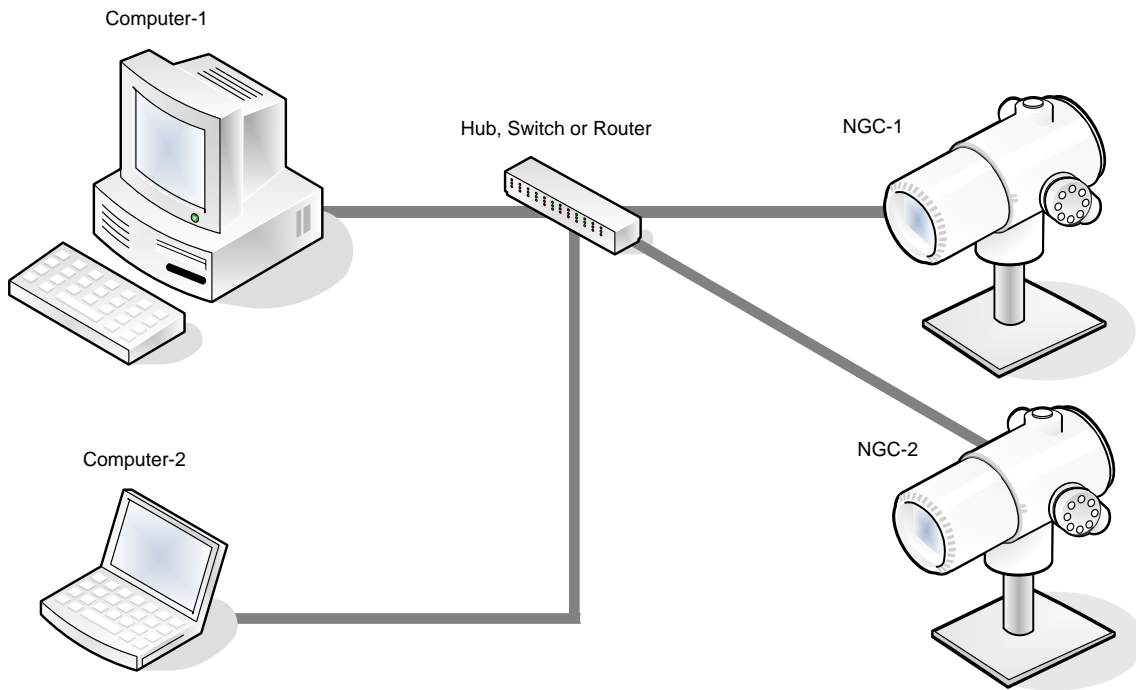

Figure 4-1 Ethernet Connections
PCCU32 communication with the NGC over an Ethernet connection (TCP/IP) requires the use of a hub, switch or router (see Figure 4-1). Ethernet (local) communication in a remote area may also be utilized.
- Hub, Switch or Router and Associated Wiring to NGC (see Figure 4-1).